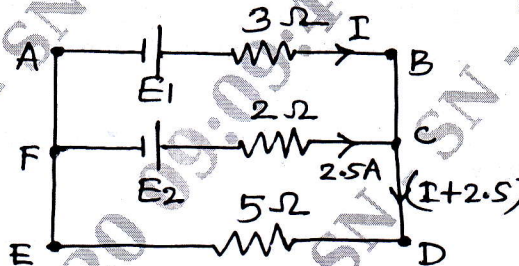

Fig. Q2(b)
- In the circuit shown in Fig.Q2(b). Find E_1 , E_2 and I , when the power dissipated in the 5Ω resistor is 125W.